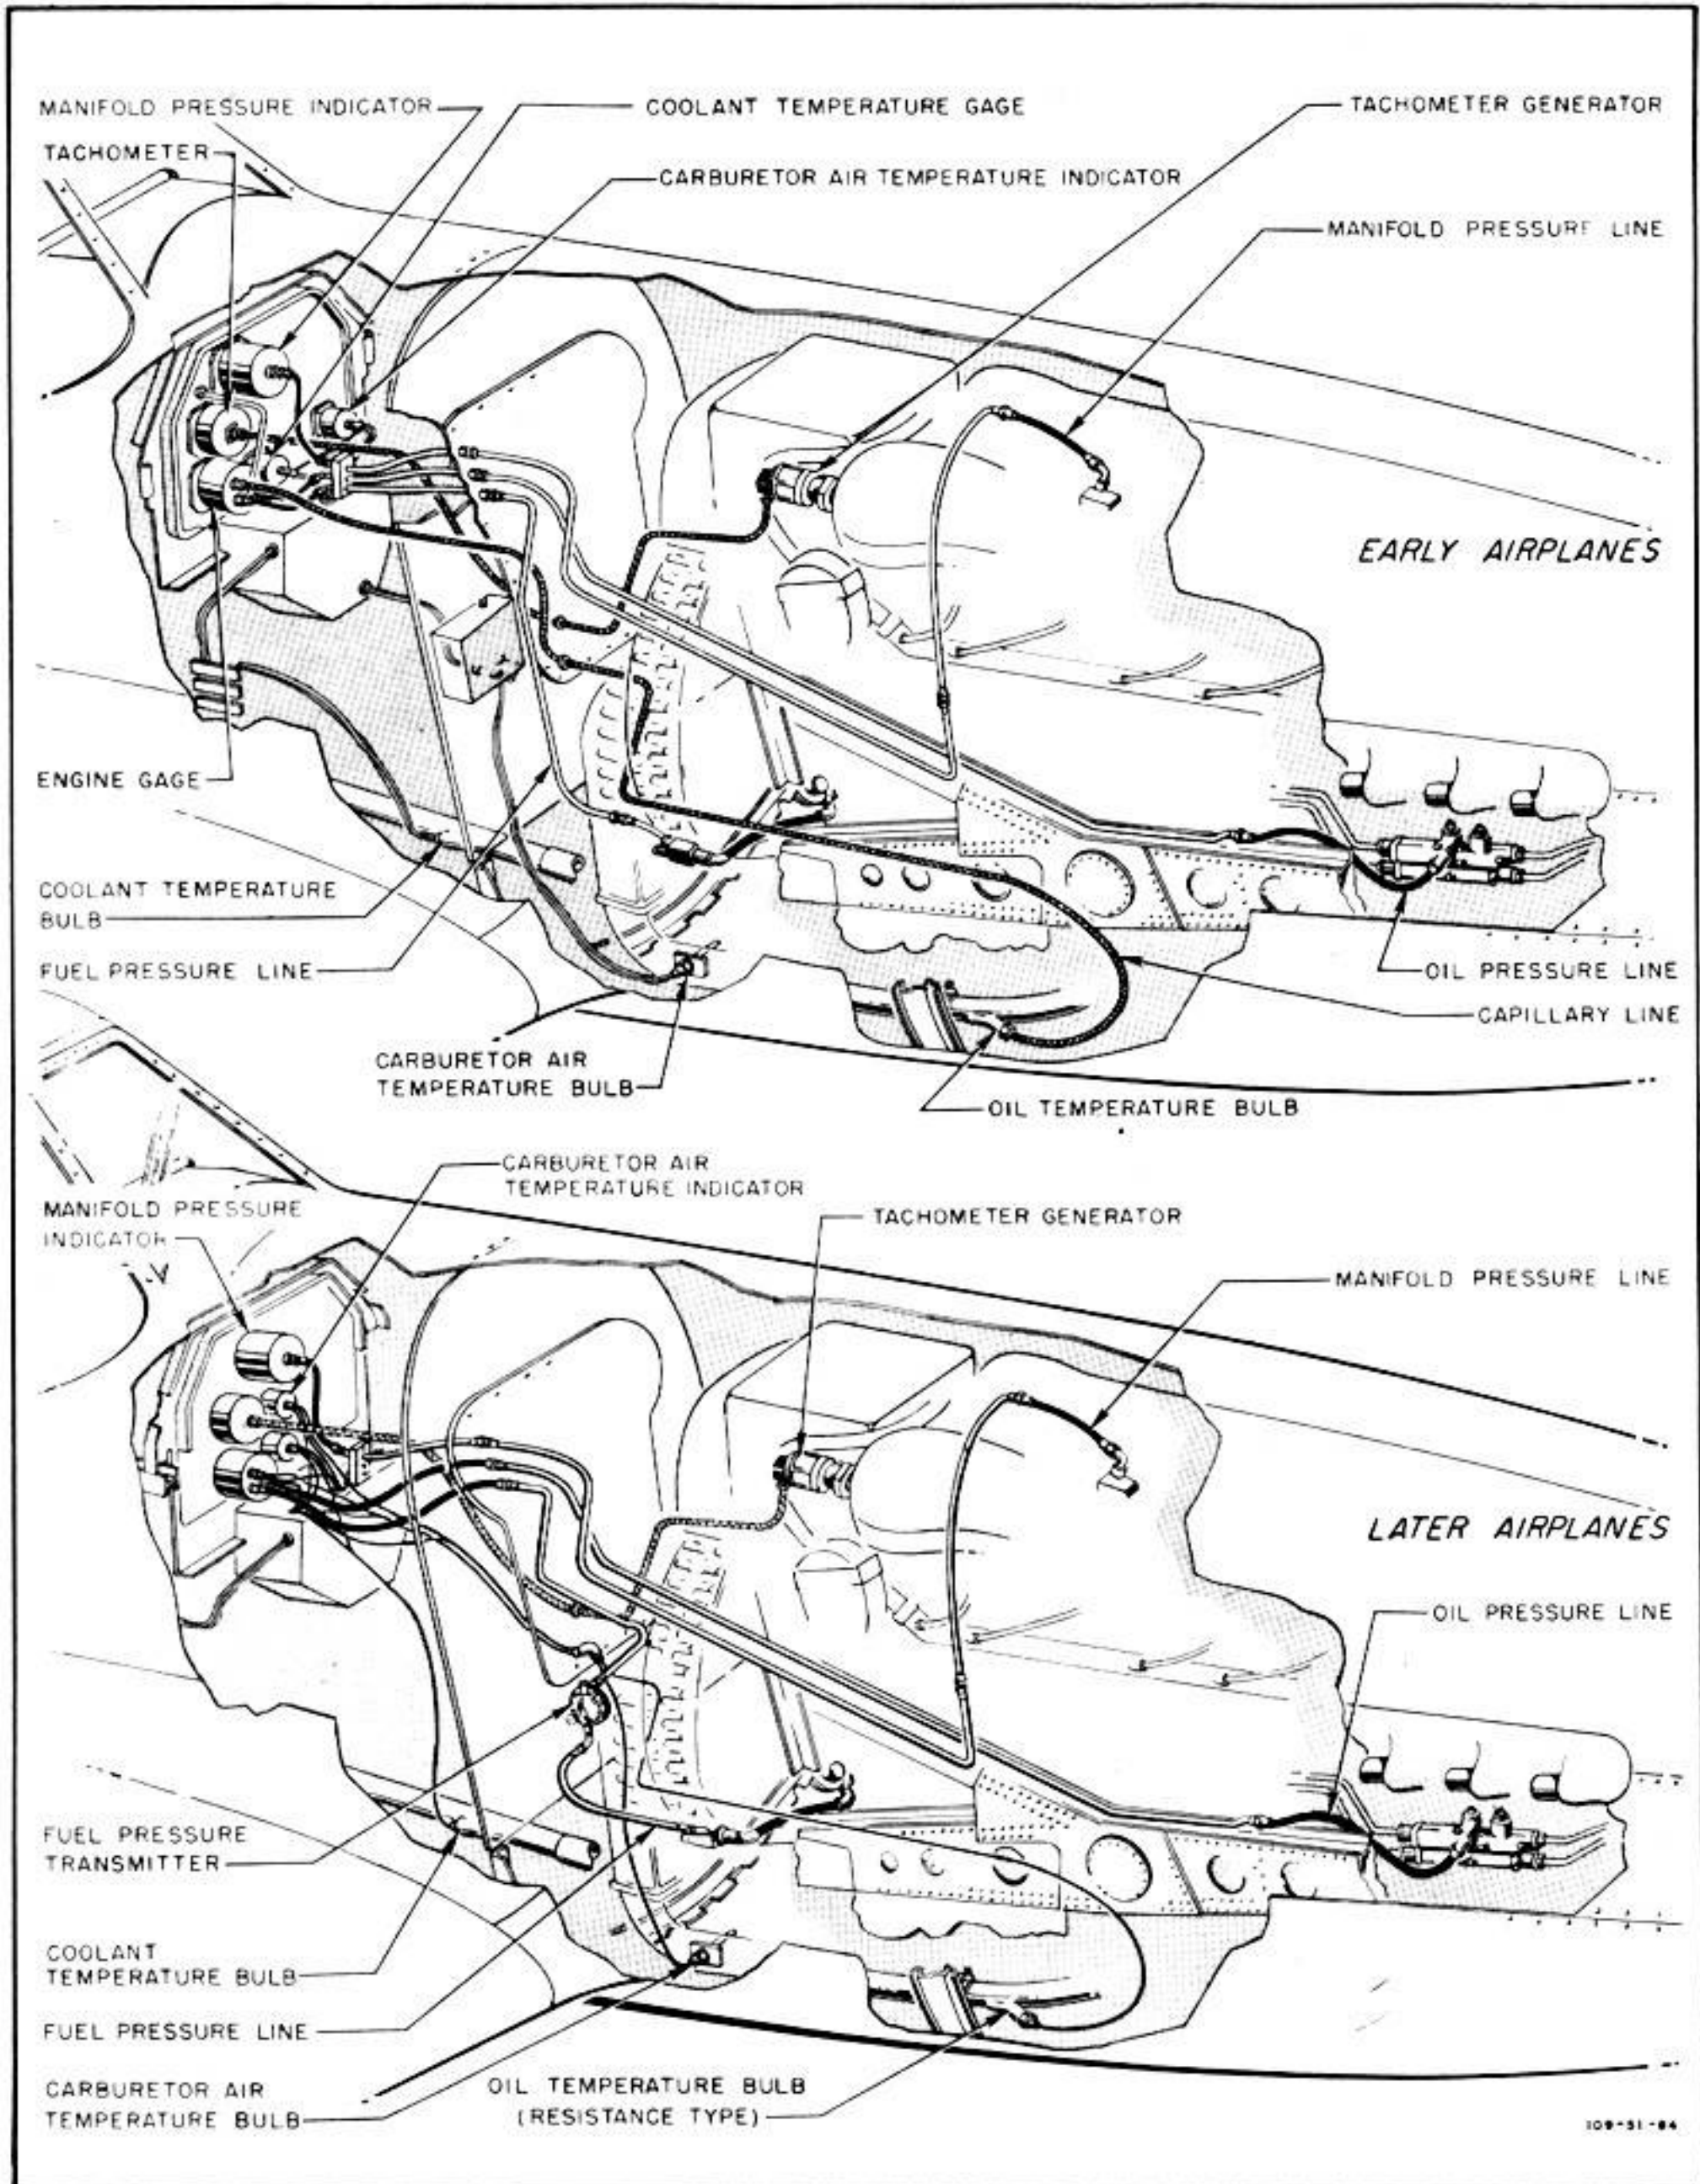
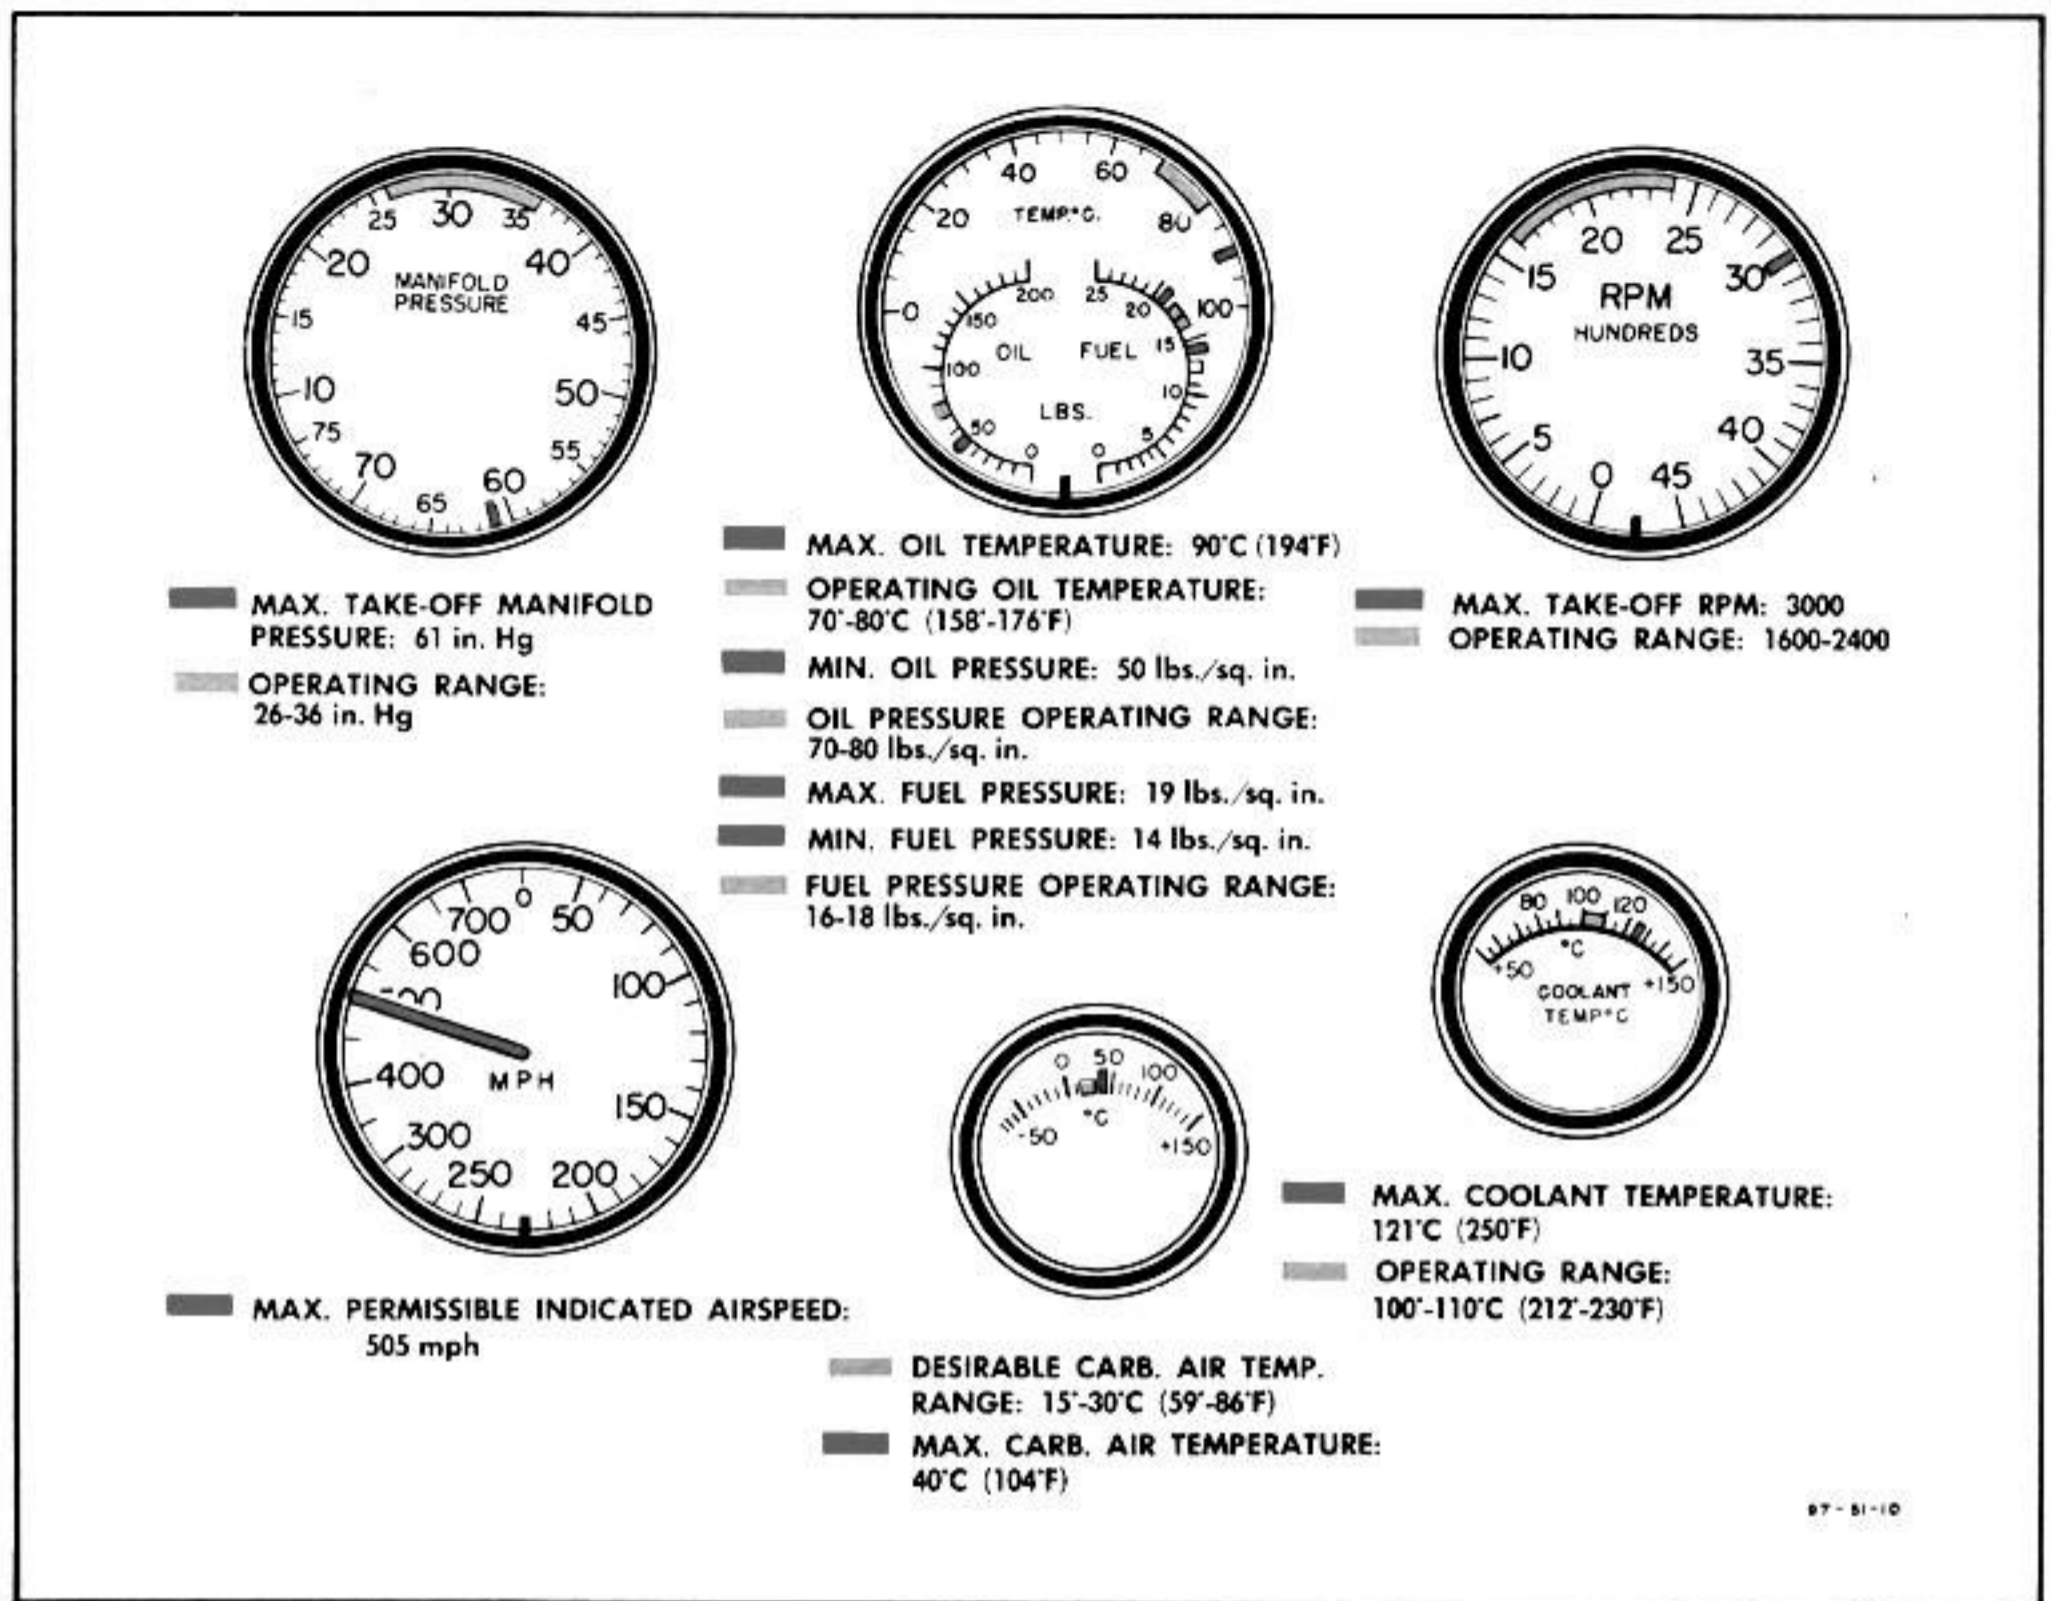

Figure 298—Engine Instrument System
Figure 299—Instrument Limitations
(1) GENERAL.—The engine instruments consist of the following: manifold pressure indicator, tachometer, carburetor air temperature indicator, engine gage, and coolant temperature gage. (See figure 298.) The engine gage consists of three gages in one case for indicating oil temperature, oil pressure, and fuel pressure. The operational limits of engine instruments are indicated by fluorescent decalomania markers. (See figure 299.)
(2) MANIFOLD PRESSURE INDICATOR.